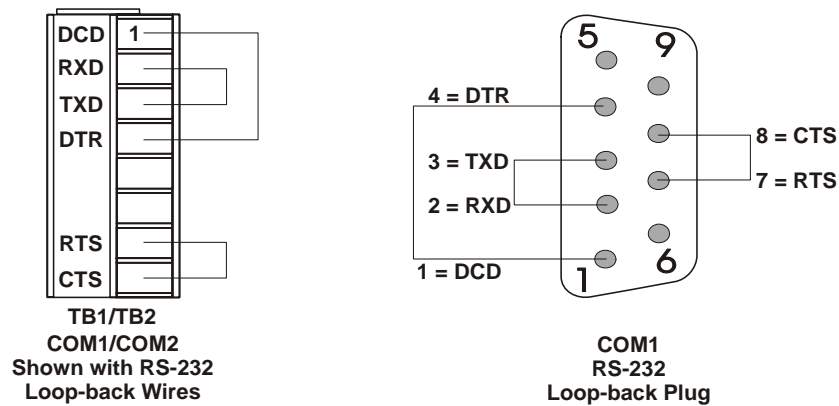

Figure 3-6 - RS-232 Loop-back Plug/Wires
- Port 1 - RS-232 use a 9-pin female D-type loop-back plug or loop-back wires (see Fig. 3-6).
- Port 2 - RS-232 use loop-back wires (see Figure 3-6).
Connect an external loop-back plug or loop-back wires to the Communications Port to be tested (see Figures 3-6 and 3-7).